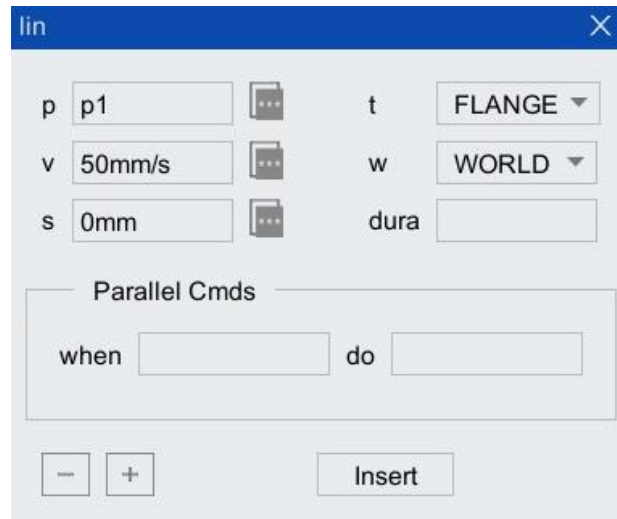

Figure 5-24 "lin" Instruction configuration interface
Step1.Click "lin" icon in the toolbar of the program editor to pop up "lin" instruction box, as shown in Figure 5-24.
Step6. Click the <Insert> button in Figure 5-24, and the instruction is inserted successfully.